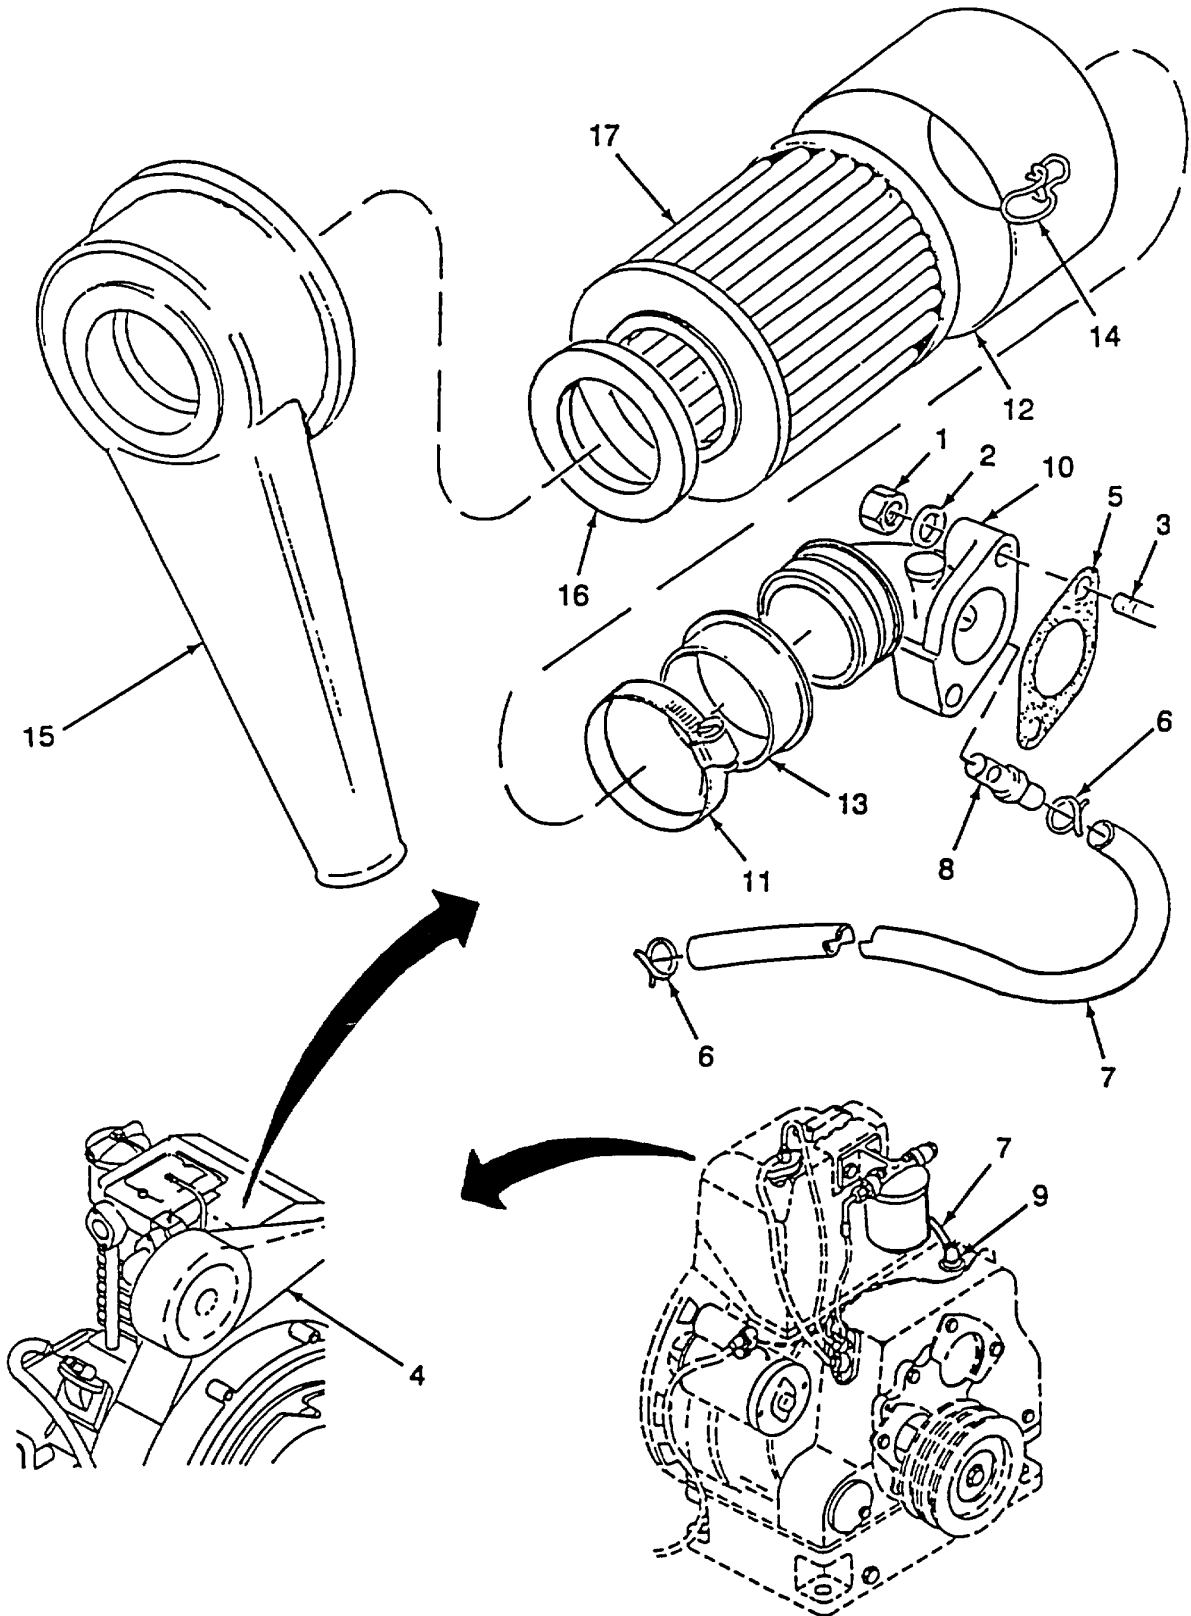

Figure 4-31. Air Cleaner Assembly
(3) Installation.
- (a) Set diesel engine (3) onto air-receiver tank mount (20), aligning up holes.
- (b) Install four nuts (17) under air-receiver tank mount (20), four washers (18), and bolts (19), through diesel engine (3) mount.
- (c) Install bolt (14), washer (15), and two ground wires (16) to diesel engine (3).
- (d) Position hose (12) on air cleaner (13), securing with clamp (11).
- (e) Connect electrical lead (8) to glow plug (10), securing with nut (9)
- (f) Install oil temperature switch (7) into diesel engine (3)
- (g) Connect fuel line (5) to suction side of fuel pump (6) and tighten clamp (4).
b. Air Cleaner Assembly.**(1) Removal. (Refer to Figure4-31).**
- (a) Remove hose from air cleaner (para 4-39.a.). Remove breather tube (7) from valve (9)
- (b) Remove two nuts (1) and two washers (2) from studs (3)
- (c) Remove air cleaner assembly (4) and gasket (5) from cylinder head.
(2) Disassembly.**NOTE**